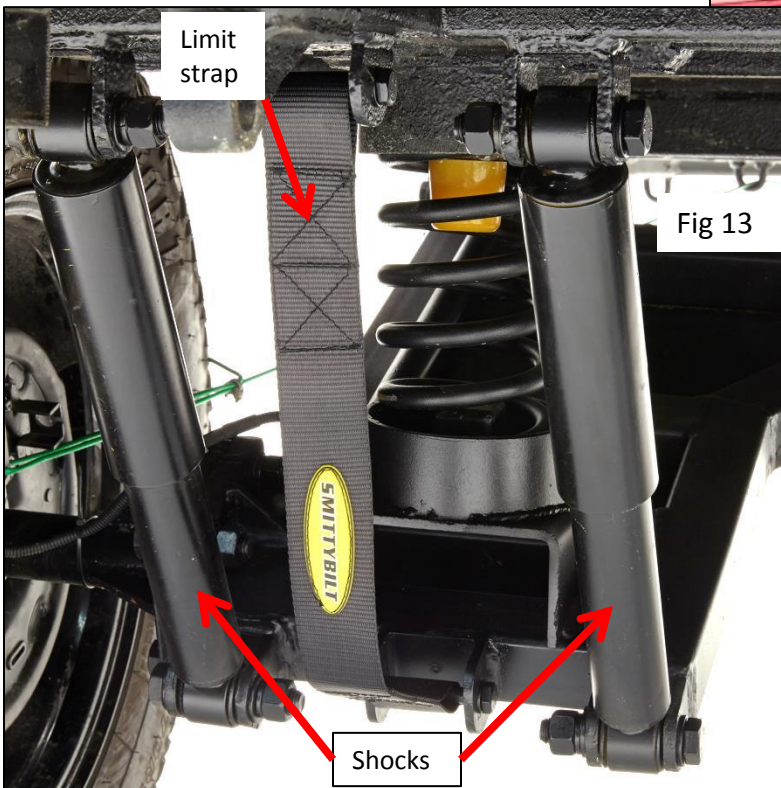

Fig 13
18. Install limit strap into middle mounts on trailing arm and trailer body. Use M10 hardware. Its easiest to put the limit strap into position, then insert bolt into mount. The bolt will go in at a slight angle when first started, then will straighten out when going thru the second mount. Apply thread locker to threads and torque to 30 ft/lb. Take care to not over tighten. Fig 13.
19. Install shocks into the outer mounts on the trailer arm and trailer body. Use M16 hardware to attach them. Do not tighten this hardware till you have the full weight of the trailer supported on the suspension. Its best to tighten after the tires and wheels have been installed and are supporting the trailer. If shocks are tightened without weight of trailer on suspension you will bind the bushings which may cause squeaking and will accelerate wear on the bushings. Lube bushings and the area in which bushings make contact with trailer body and trailing arm mounts with lithium based grease. Apply thread locker to threads. Fig 13. You will torque these bolts to 85 ft/lb.